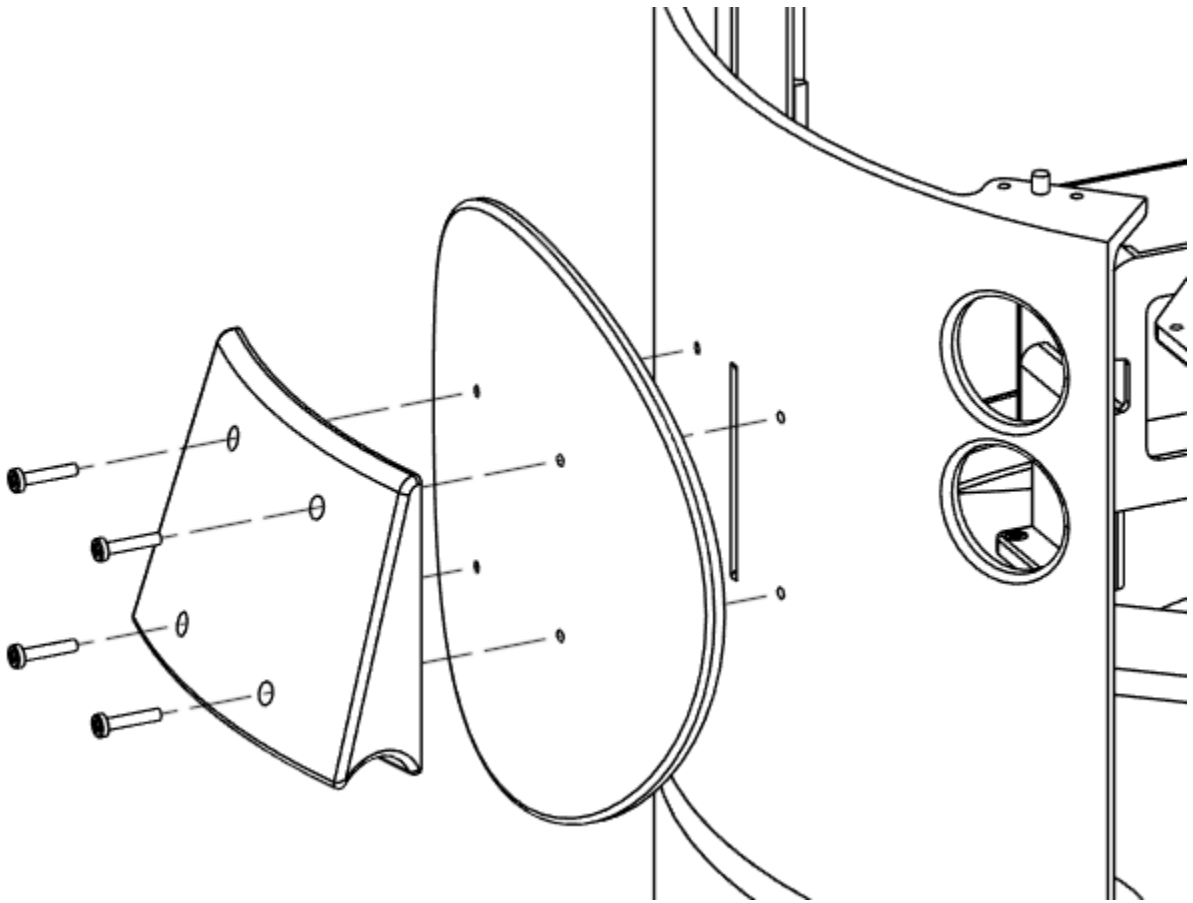
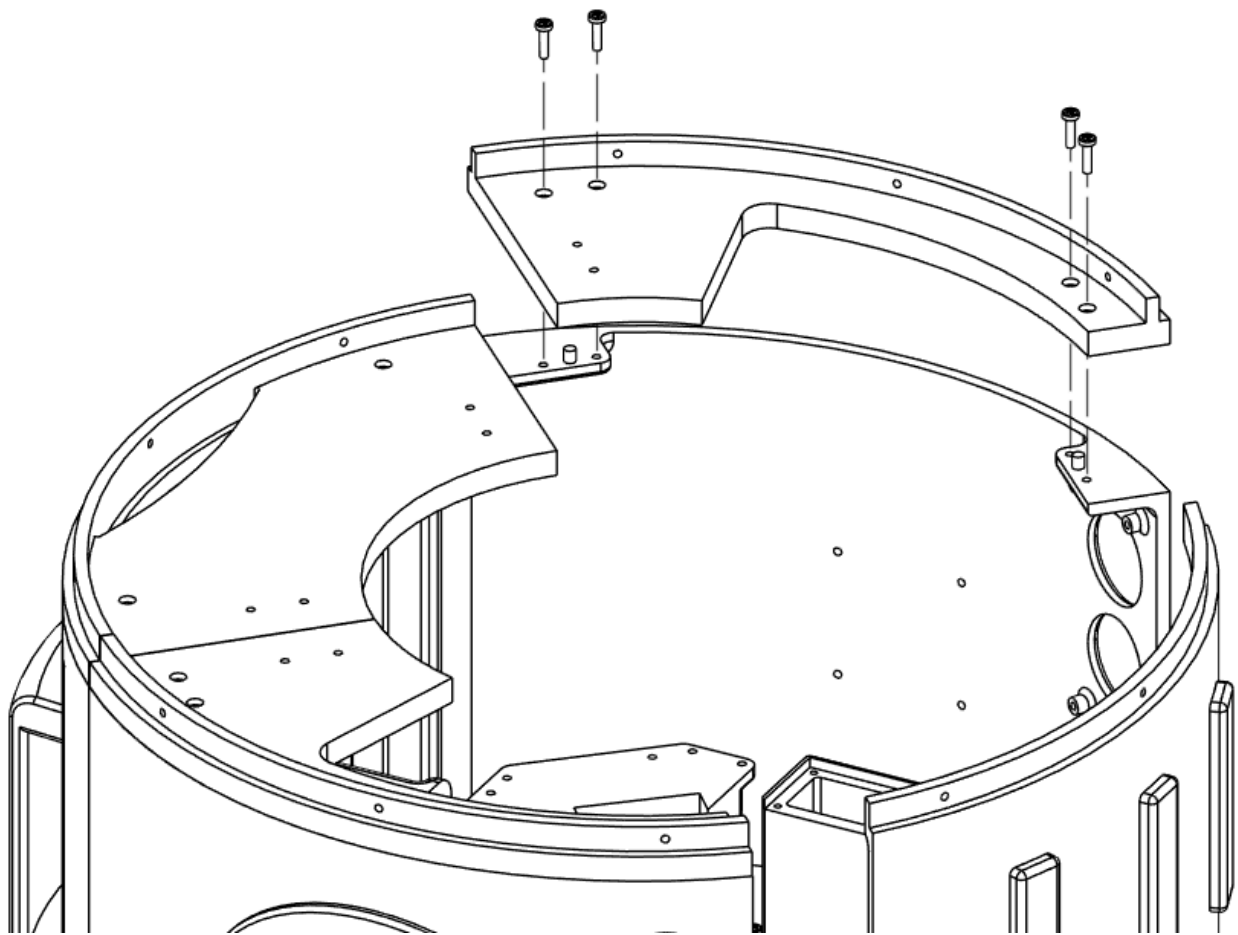
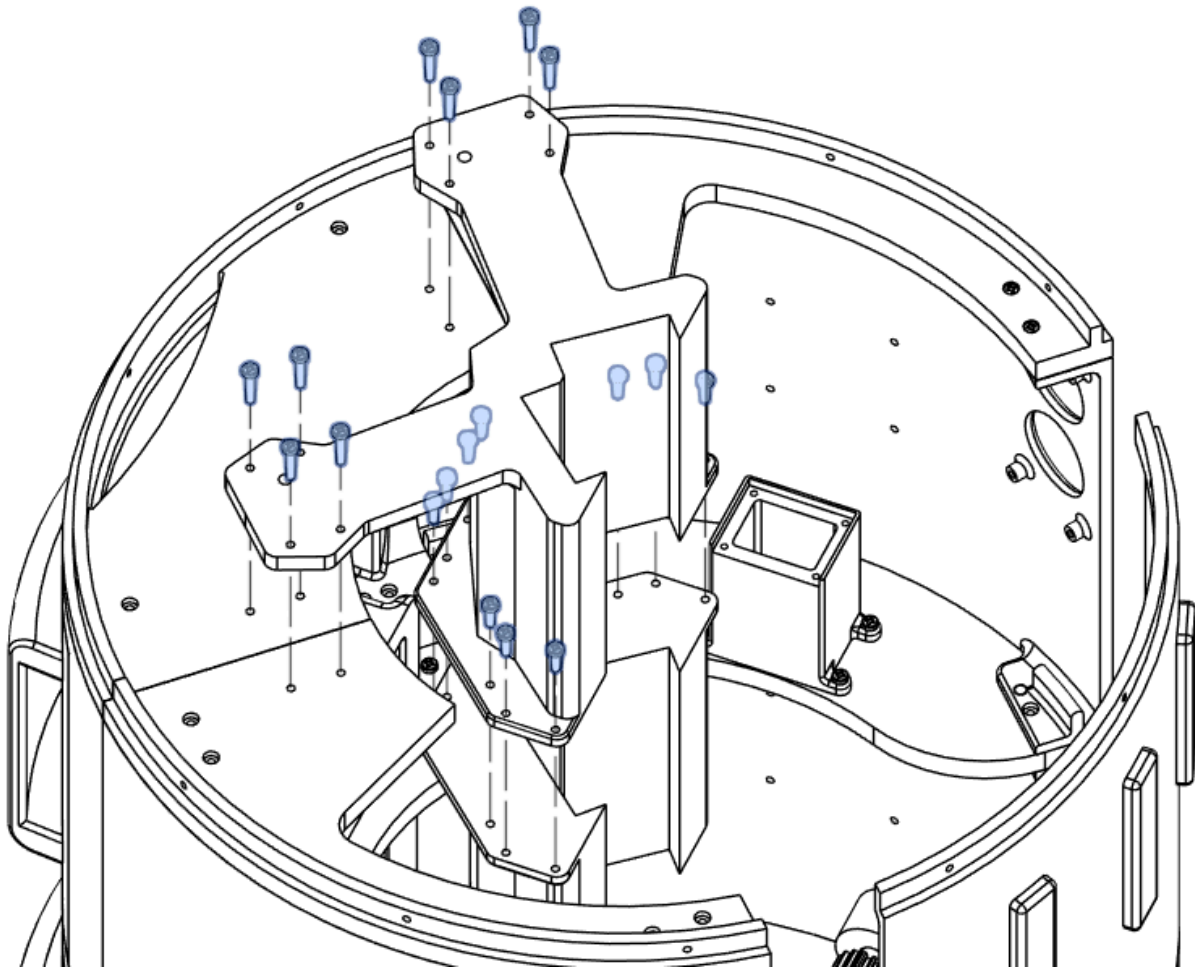

Figure 8.4 - Carry Handle Assembly
Figure 8.5 - Dome Level Base Plates Assembly
Figure 8.6- Upper Anti-Deflection Shaft Assembly
- 4. Fasten Carry Handle and Circle Accessory Base on 3rd Level Left Wall as shown in Figure 8.4
- a. (4) M3x16mm Black Oxide
- 5. Fasten Dome Level Base Plates on 3rd Level Walls as shown in Figure 8.5
- a. (10) M3x12mm
- 6. Fasten Anti-Deflection Shaft to lower Anti-Deflection Shaft and Dome Level Rear Base Plate as shown in Figure 8.6
- a. (10) M3x10mm
- b. (8) M3x16mm